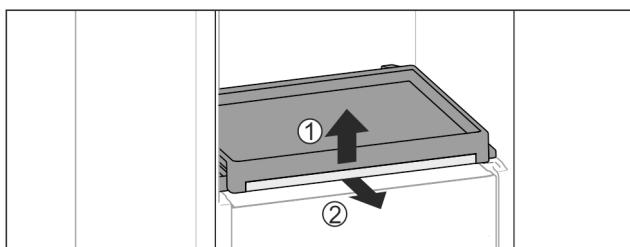

Fig. 111
- ▶ To remove the pull-out board with glass panel: Gently lift the glass panel at the front *Fig. 111 (1)* and pull out to the front *Fig. 111 (2)*.